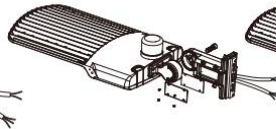
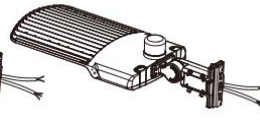

Figure 3
Figure 4
Step 1: Remove the bracket mounting screws on the fixture, open the side lid of bracket and run the wires through the bracket. (Figure 3) Step 2: Install the bracket on the fixture, then cover the side lid and tighten it. (Figure 4)